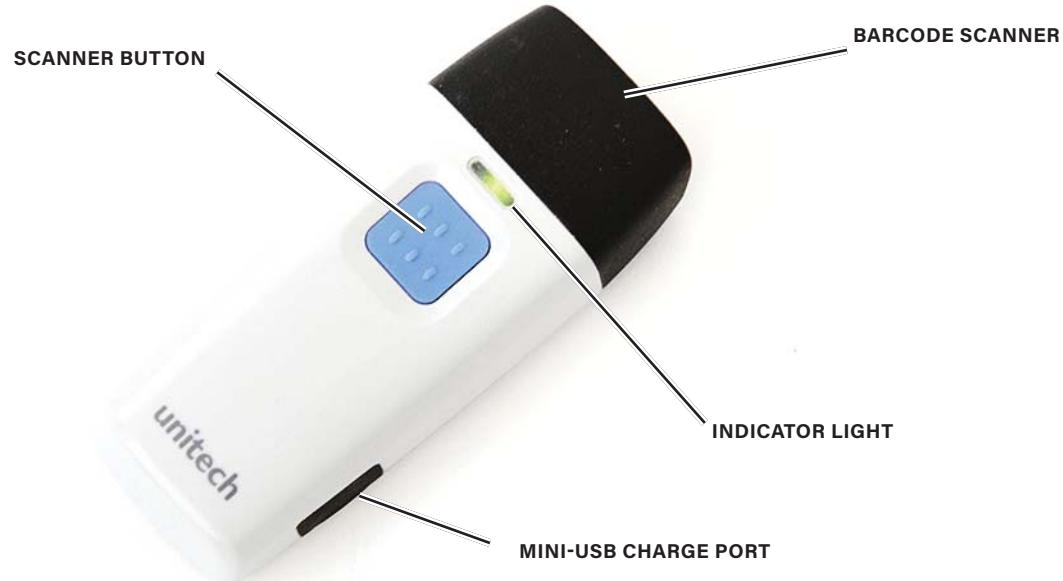

Figure 9-15. Bluetooth Scanner Push Button
21. Press the pushbutton on the Bluetooth scanner, shown in figure 9-15, to power up the scanner and prepare for the next step.